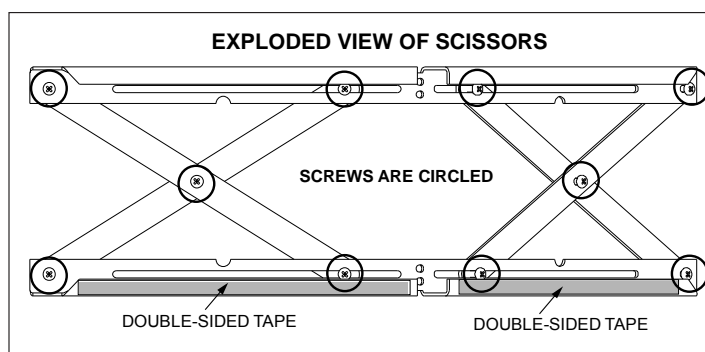

Figure 44.1
1. The 10 screws on each set of scissors will already be loose when shipped. **Figure 44.1.**